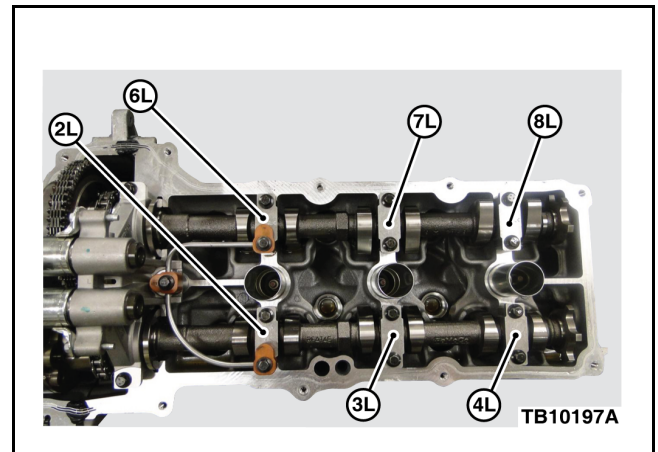

Figure 1 - Article 12-1-17
3. Remove camshaft caps 2L and 6L. (Figure 1)